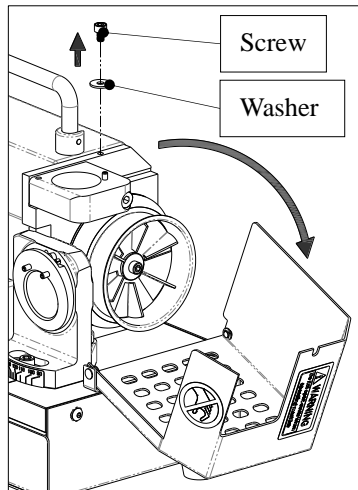

Fig. 20-2
- ③ Loosen the screw on the grinding wheel cover to open the cover. (Fig. 20-2)